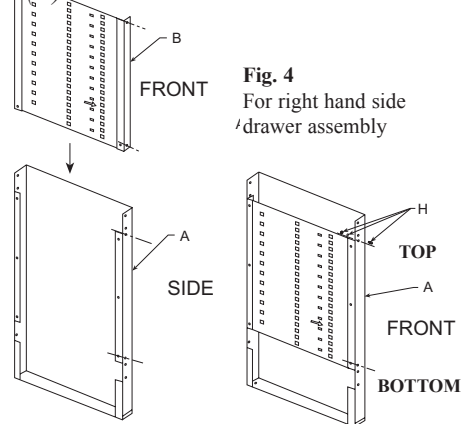

Fig. 4
1. Insert remaining Inner Panel (B)* into End Panel (A) as shown in Fig. 4. **NOTE:** Arrow ▷ on inner panel points to front of assembly.
2. Attach Inner Panel (B) to End Panel (A) at the front on top and bottom with (2) Fasteners (H).